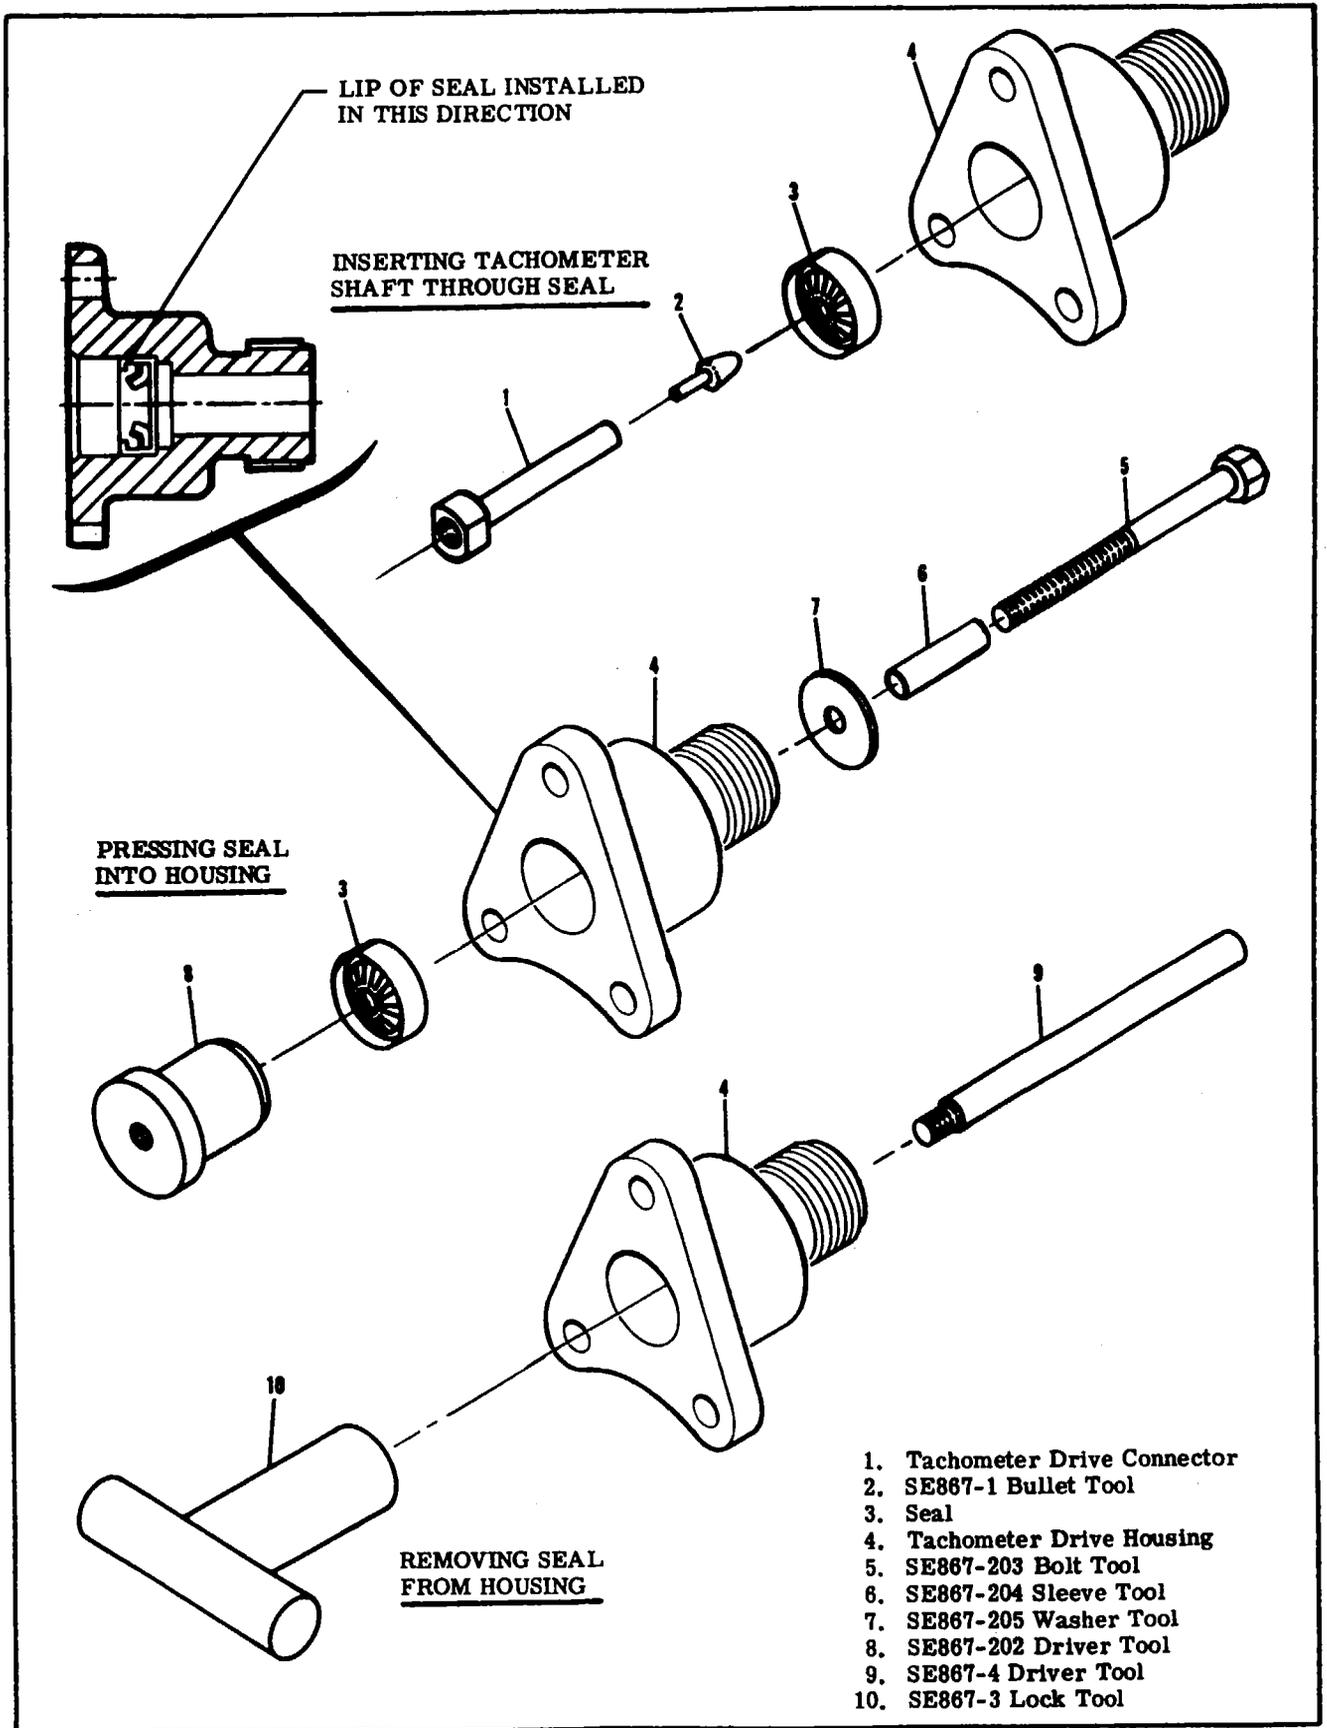

Figure 11-4. Tachometer Drive Seal Installation
g. Engage lock tool (10) and driver tool (9) through the housing (4) as shown in figure 11-4. Tap the driver tool (9) with a hammer until the seal (4) is removed from the drive housing.
h. Engage bolt (5) through sleeve (6), washer (7), drive housing (4), seal (3), and into driver tool (8) as shown in figure 11-4. Tighten bolt (5) until driver tool (8) comes in contact with the face of drive housing (4).
Seal is to be installed with lip of seal as shown in figure 11-4.
i. Remove the tools and inspect seal (3) for proper seating.
n. Insert bullet tool (2) into end of the tachometer drive connector as shown in figure 11-4.